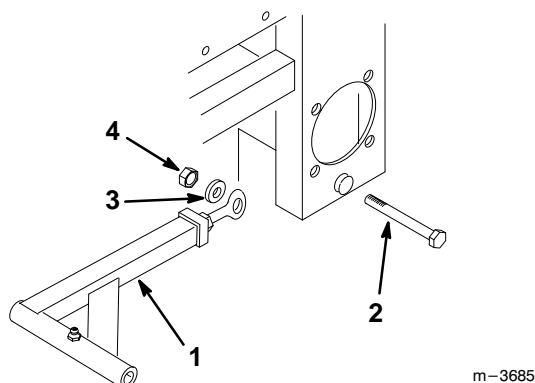

Figure 8
1. Attach left and right struts, with greases fitting up. Secure inside of rear frame member with 5/8–11 x 5" (127 mm) bolts, 5/8" lock washers and 5/8–11 nuts (Fig. 8).